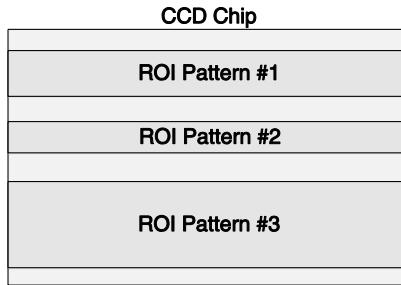

Figure 127. Multiple Full-width ROIs
1. ROIs cannot overlap. This places restrictions on the Slit (Y) values that can be specified. For example, if Pattern 1 has a Slit Start value of 1 and a Slit Height 100, the Start value for the next ROI must be greater than 100. *If a Full pattern is selected and stored, it overlaps all others, causing all data collections to be full-chip.* Figure 127 illustrates multiple full-width ROIs.
2. Entering values for the Wavelength (X) and Slit (Y) parameters from the keyboard.
**Note:** In Spectroscopy mode, ROIs created via the mouse are limited to full chip width like the ones depicted in Figure 127. This is not the case in Imaging mode.